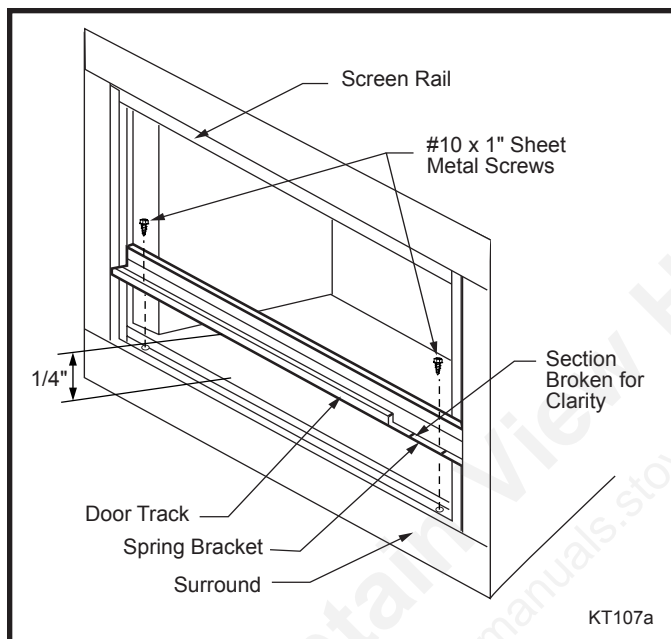

Fig. 2 Mounting door tracks.
1. Mount the two (2) door tracks. You will find two (2) pre-punched holes in the top and bottom surround for the mounting of the door tracks. The 42" models have a third hole in the middle of the track. BREF/TBREF have five (5) prepunched holes in the bottom surround for the door track to fit into. With the shorter leg of the track facing away from the fireplace, align holes in track with holes in unit. (Fig. 2) Using two (2) #10 x 1" long sheet metal screws, position the door track as shown in Figure 2. Secure the door track to the bottom surround. Attach the remaining door track to the top surround using the same method. BREF/TBREF do not require screws for the lower track.